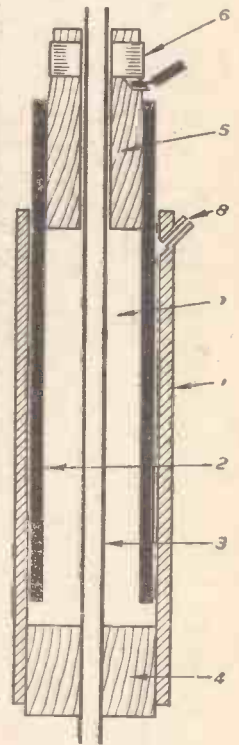

Fig. 1 (Right)—Section through turntable and supporting tube.
The turntable is built on the lines suggested in the first article of the series. Two iron pipes (1) and (2), Fig. 1, about 2 in. and 2½ in. diameter and 3 ft. long, fit closely together in one another. The cross-arm, which carries the dynamo and tail, is made from two flat iron bars (32) Figs. 2 and 3, bent at the local forge, and bolted around the inside pipe. In the photographic illustrations these bars are ¾ in. x ¼ in., but something lighter would do quite well, although they should be wide enough to take four ¼ in. bolts to secure them to the pipe. The bars lie flat against each other on the side that holds the dynamo, but a space of ¼ in. is allowed on the short side for tightening purposes. The bottom of the outside pipe is closed by a wooden block (4), Fig. 1, 3 in. or 4 in. long, driven tightly into the pipe. A length of copper or brass tube (3) fits tightly in this block and passes up through the turntable to carry the control rope (35), Fig. 3, through the oil reservoir (7). This is filled through the opening (8) with heavy motor oil when the whole machine is finally mounted on its pole.